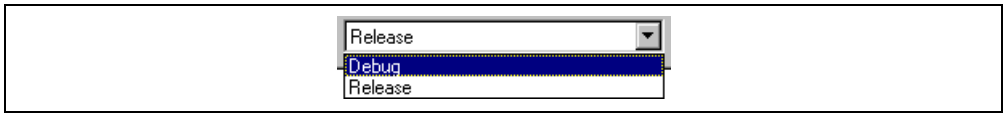

Figure 2.15: Toolbar Selection
1. Select it from the drop down list box (figure 2.15) in the toolbar.